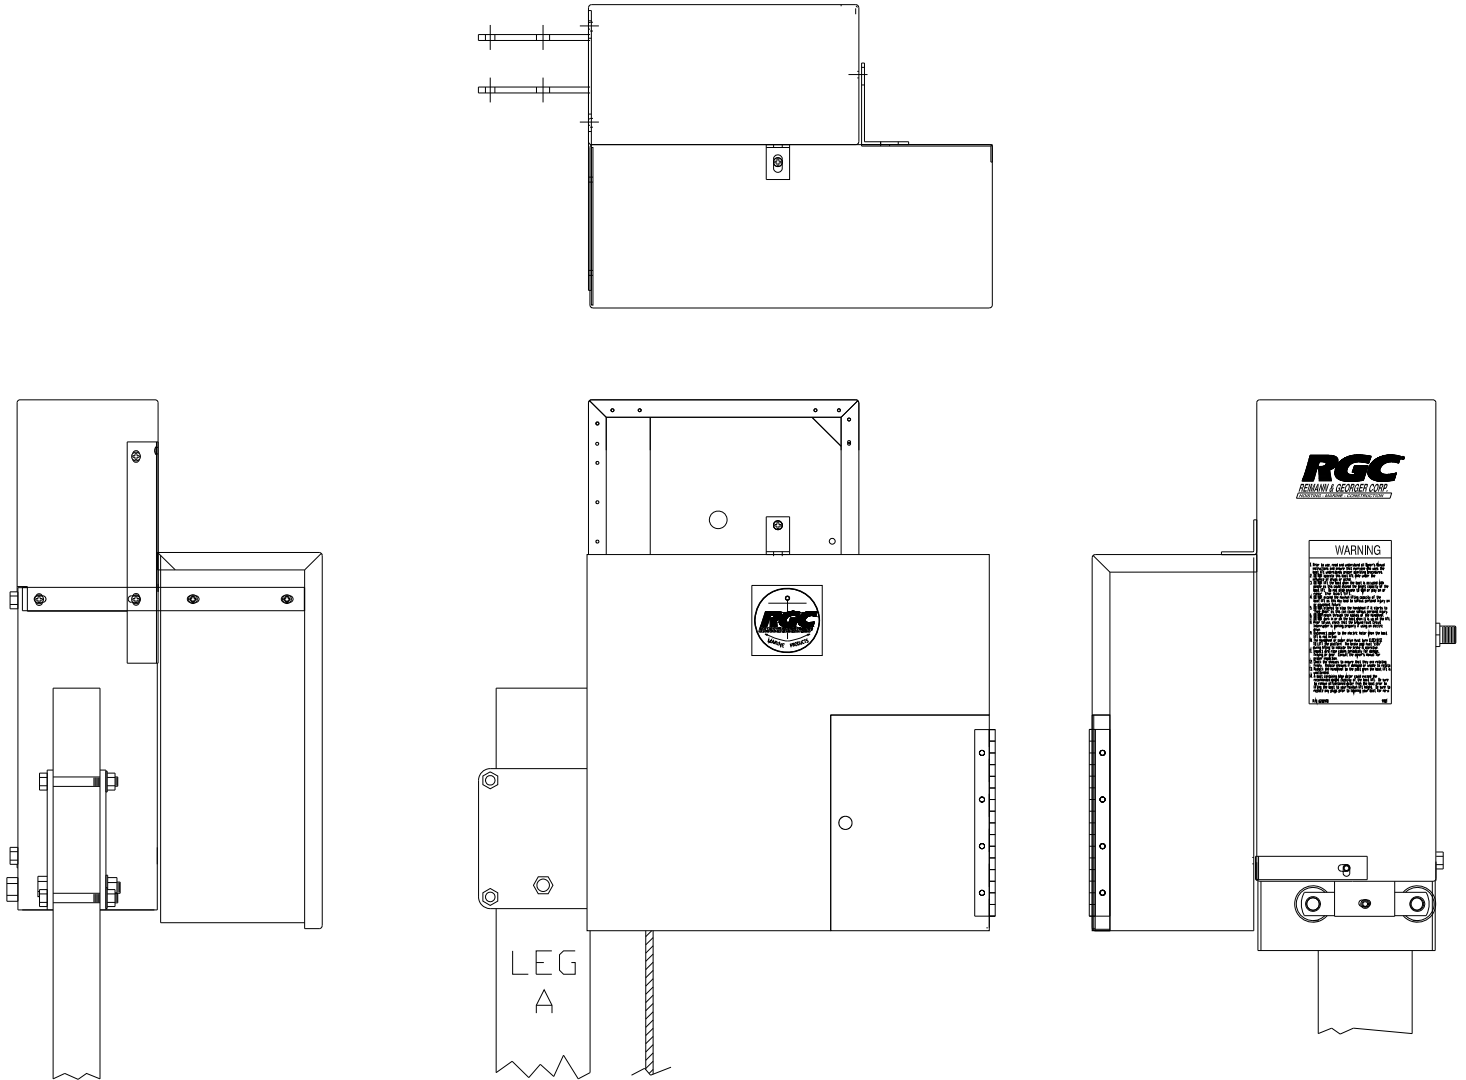

Figure 2-3 Installed Views of VLDD Guard
1. Refer to figure 2-3. The winch cover needs to be removed. Unscrew the screws holding it in place using a Philips screw driver and slide the cover off.